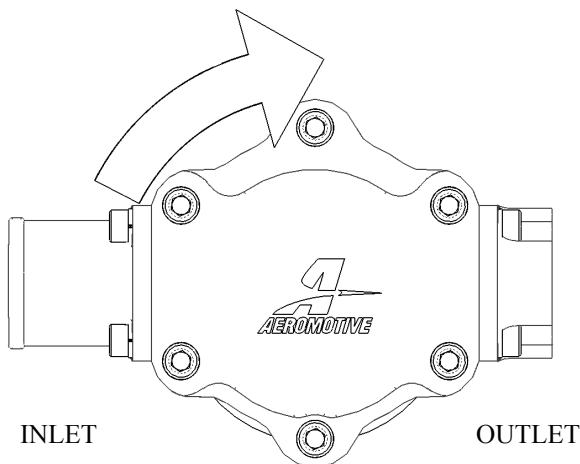
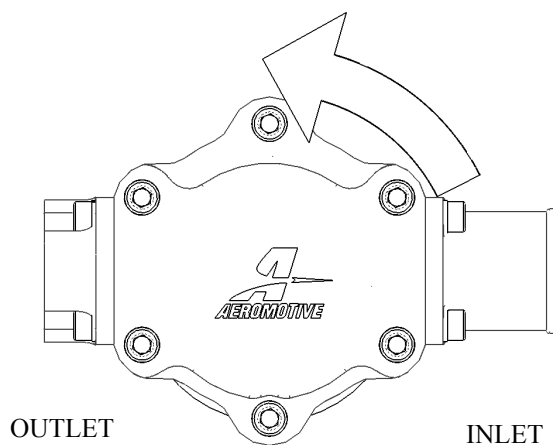

Figure 1a
Figure 1b
5. Determine which direction the fuel pump shaft will rotate. The direction the shaft is rotated will determine which port is the inlet and which is the outlet. Using Figure 1a & 1b as a reference identify the fuel pump inlet and outlet ports. If the fuel pump shaft is rotated in a clockwise direction as viewed from the front of the pump the inlet and outlet ports will be as shown in Figure 1a. If the fuel pump shaft is rotated in a counter-clockwise direction as viewed from the front of the pump the inlet as shown in figure 1a now becomes the outlet and the outlet in figure 1a is now the inlet, this is shown in figure 1b.